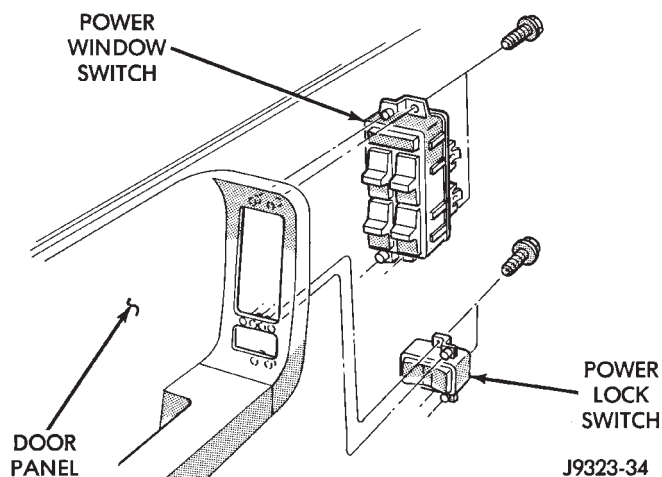

Fig. 3 Left Power Door Switches
- (10) If necessary, remove waterdams from door.
- (11) If necessary, remove power switches from door panel (Figs. 3 and 4).
- (1) Apply adhesive/sealant to edges of door waterdam.
- (2) Position waterdam on door inner panel. Press it inward to attach it to inner panel.
- (3) If removed, install power door switches (Figs. 3 and 4).